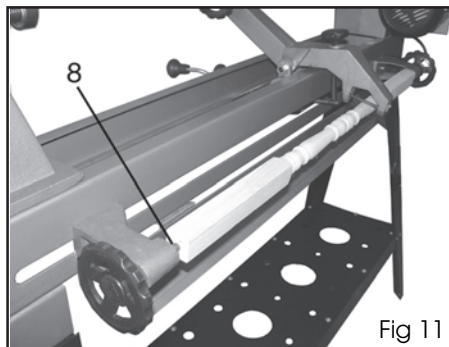

Fig 11
1. Take the template object which is to be copied and mark diagonal lines on each end in order to show the centre point before installing it in the copy stock position. Pierce the template with the copy spindle spur (8) and then tighten both ends equally to hold the template as shown in Fig 11.